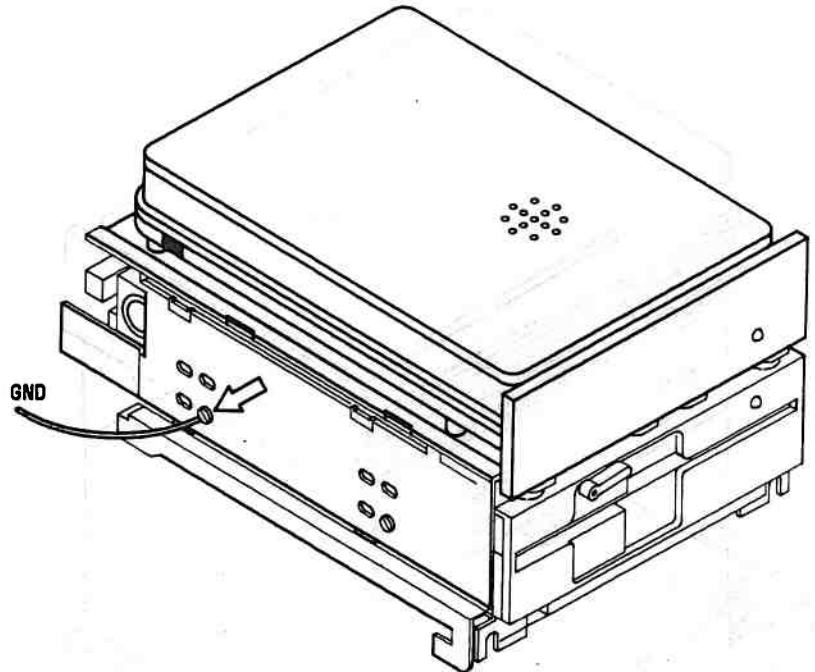

Figure 5-69. Removing the Drive Assembly Ground Strap
- Using a standard screwdriver, remove the screw from the side of the drive assembly that secures the ground strap and remove the assembly from the cabinet (Figure 5-69).